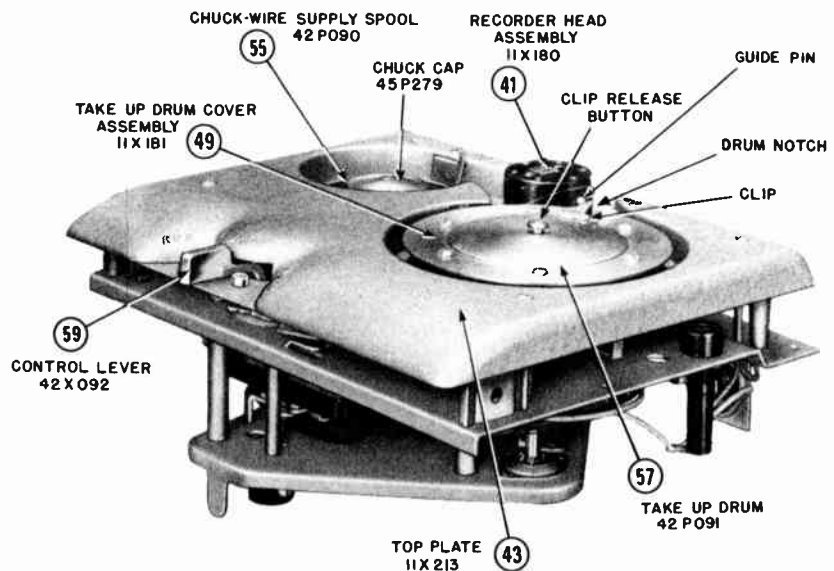
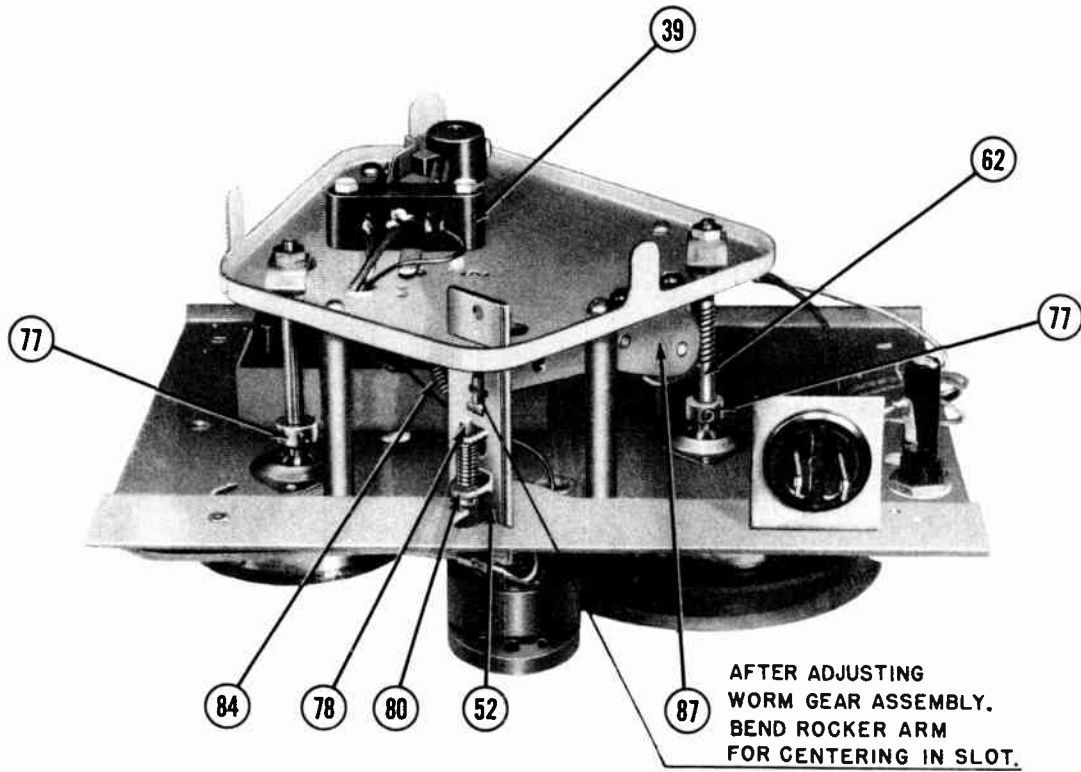

Fig. 2 — MODEL 79 FOUNDATION UNIT
Fig. 11 — REAR VIEW — DRIVE MECHANISM
If wire spills over the top or bottom of both the take-up drum and the supply spool when recording or rewinding, adjust the stroke of the recording head by means of the recording head adjusting screw (illustration 80, Fig. 11). This screw is reached by removing the top cover (Fig. 2) and inserting a screw driver through the small hole shown in Fig. 11.
The wire clip on the take-up drum cover (Fig. 2) is set to give a little jerk as the last turn of wire leaves the spool during "Rewind". This jerk causes the last turn to tuck into the lower layers of wire on the supply spool and prevents unravelling. If the tension is too weak, the wire will not be held and this tucking will not take place. The tension of the clip is adjusted by turning the adjusting screw (Fig. 2). On a few units this tension is adjusted by turning the nut. It is necessary to remove the take-up drum cover (Fig. 2) to make this latter adjustment.
Grime may accumulate in the slot of the recording head (Fig. 2). Dirty or gummy wire, due to handling, will cause the recording head to become gummy. This not only will cause the wire to pull hard through the recording head but will in some cases act as an insulator and cause "WOWS". Use a fine stiff brush (toothbrush) dipped in carbon-tetrachloride to clean the groove.
control lever (Fig. 2) operating on a cam attached to the motor control lever.
Check the adjustment of the cam and rocker arm assembly (Illustration 87, Fig. 11) against the take-up wheel drive post (Illustration 62, Fig. 11). Back lash should be .002 to .005. If greater, loosen screws (Fig. 11) and re-set. If the gear is loose on the rocker arm, replace the entire assembly.
- 1 — Sliding surfaces or slide and socket assembly. (Illustration 52, Fig. 11).
- 2 — Sliding surfaces of brake cams (Illustrations 61 and 73, Fig. 14) and control lever (Fig. 11). Be sure to grease the edges of the cams where they rub against the brake levers. (Illustrations 71 and 73, Fig. 14).
- 5 — On the worm shaft (Illustration 62, Fig. 11) where it contacts the gear of the rocker cam assembly. (Illustration 87, Fig. 11).
- 6 — On the outside edge of the cam (Illustration 87, Fig. 11).